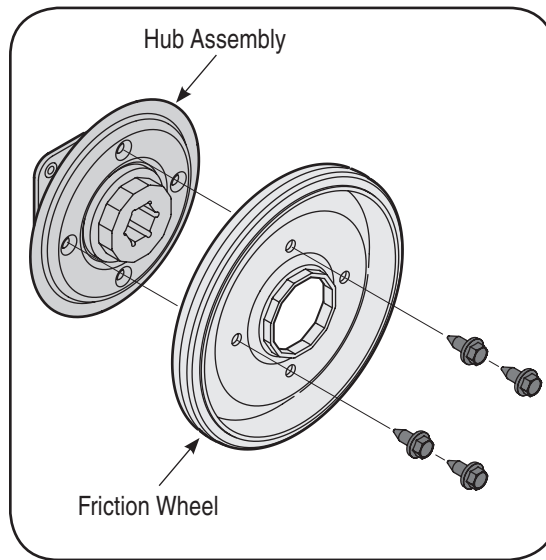

Figure 6-15
- Remove four screws securing the friction wheel to the hub assembly. See Figure 6-15. Discard old friction wheel.